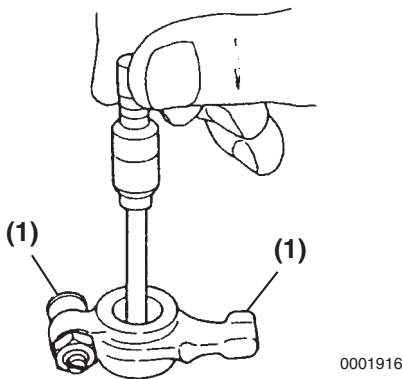

Figure 6-14
Use a test indicator and micrometer to determine if the inside diameter of all the rocker arm support brackets and the rocker arms (Figure 6-14) are within the specified limits. See Rocker Arm and Shaft on page 6-9 for the service limit.
Inspect the contact areas (Figure 6-14, (1)) for excessive wear or damage.